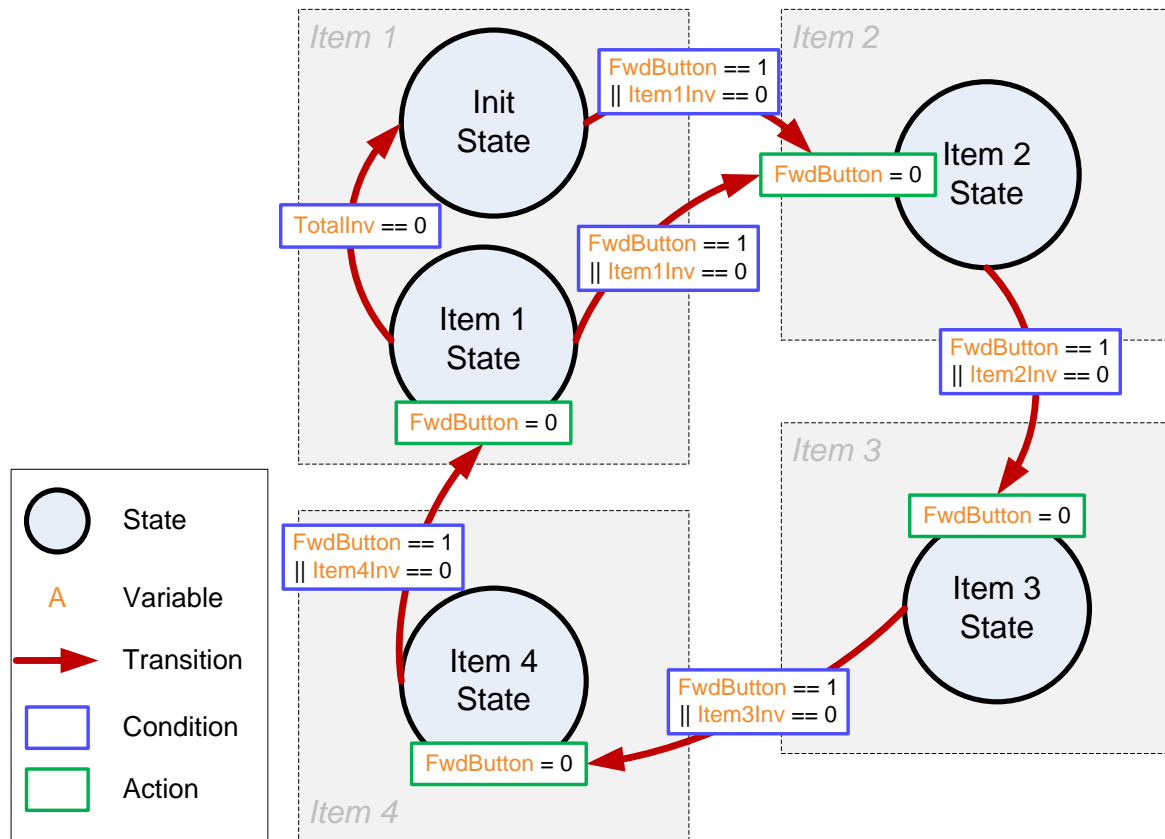

Figure 67: State Transition Map of Vending Machine Example
The vending machine operates in a complex motion sequence. It features many interfaces to buttons as well as conditional state transitions. The entire motion sequence can be implemented in SpinTAC™ Position Plan. Figure 67 shows the state transition map for the vending machine.
- In the function ST\_setupPosPlan, find the lines highlighted in Figure 67. Comment out each line. This will not reset the value for “gVendFwdButton” when exiting a state.